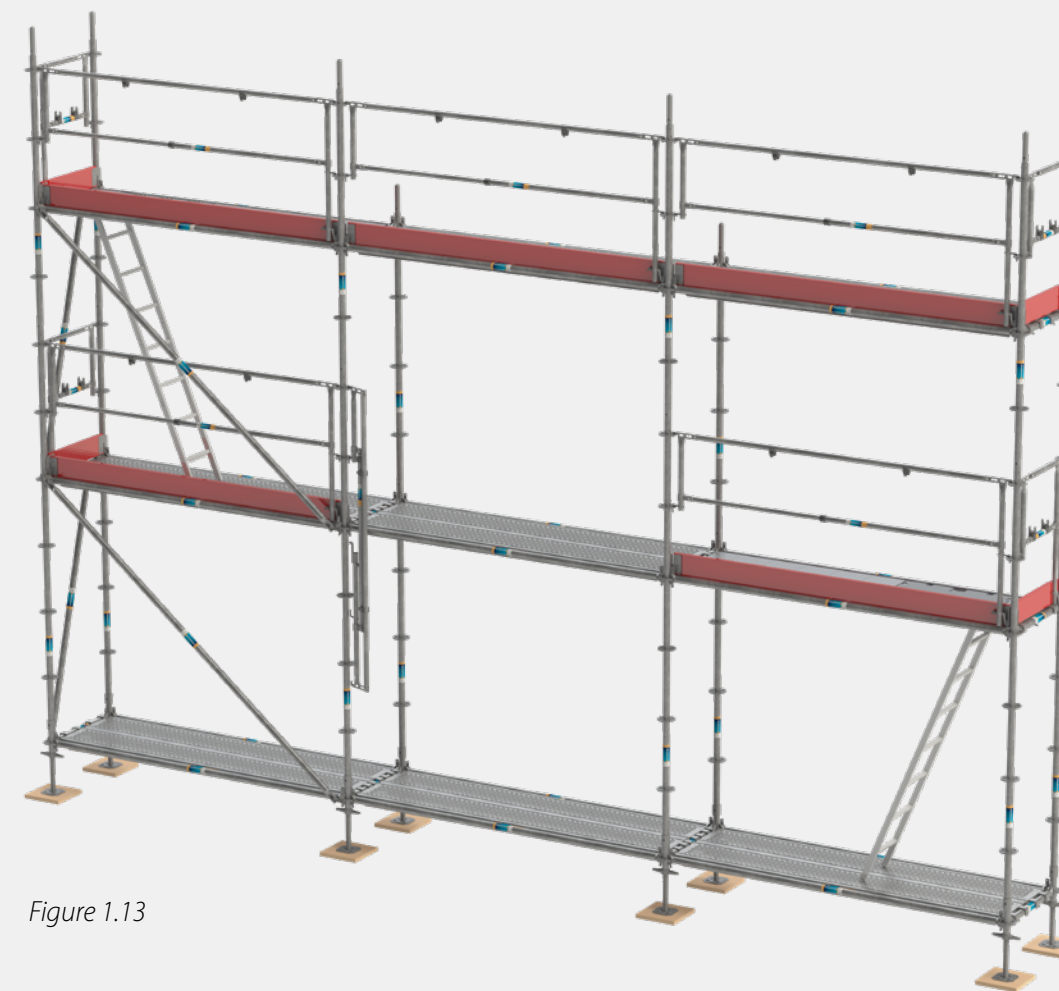

Figure 1.13
- When the steel deck or platform has been removed, it can be placed back in position (see figures 1.13 and 1.14).